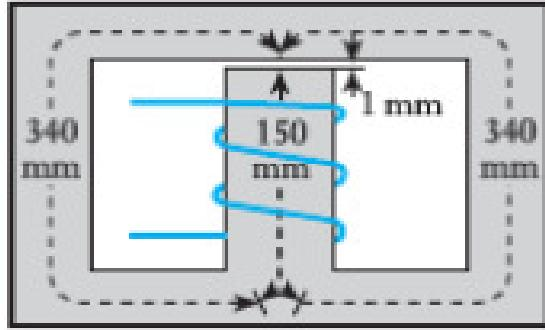

Figure:2
Q.3 A magnetic circuit made of silicon steel is arranged as in Fig. 2. The centre limb has a cross-sectional area of 800 mm^2 and each of the side limbs has a cross-sectional area of 500 mm^2 . Calculate the m.m.f. required to produce a flux of